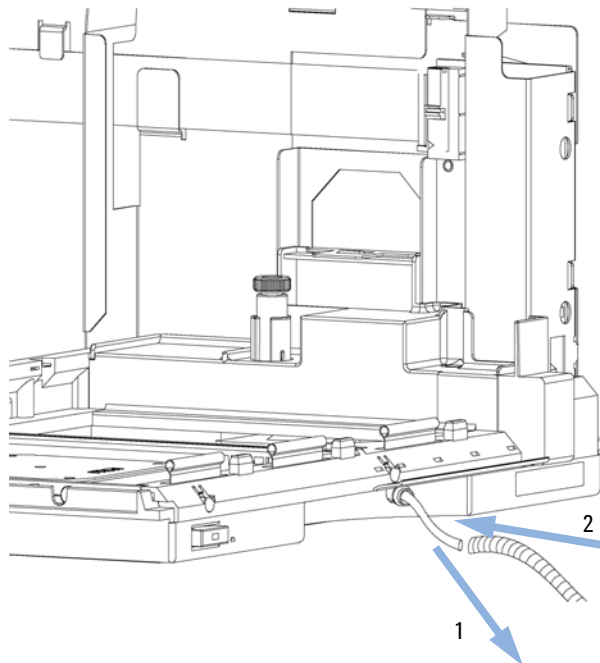

Figure 3 Installing the Corrugated Waste Tubing in the Plastic Port
Figure 3 on page 32). Route the corrugated waste tubing into a waste container.
- 7 Install the corrugated waste tube in the plastic port at the front bottom center of the fraction collector and route down into a waste container. Slide the waste tubing coming from the internal tray (if present) through the plastic port and the corrugated waste tube (see Figure 3 on page 32). Route the corrugated waste tubing into a waste container.
- 10** Remove the plastic cover from the tray base, place the air channel adapter (1) into the fraction collector tray base. Make sure the adapter is fully pressed down. This assures that the cold airstream from the thermostat is correctly guided to the tray area of the fraction collector. Place the plug channel (2) on top of the air channel adapter. Both devices must be installed correctly, to assure proper operation of the instrument.